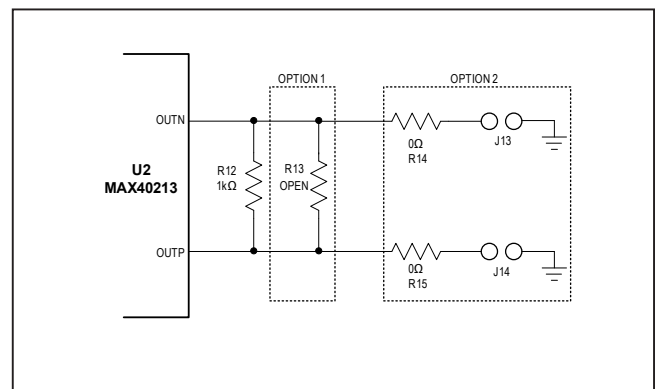

Figure 2. Evaluation Circuit 2—High Impedance Input on Equipment
- 2) Evaluation Circuit 2 (see Figure 2): Before beginning, use resistor R13 pads to install the differential probes.
The MAX40213 outputs are connected to a 1k $\Omega$  load differentially. The default position is option 1 and uses resistor R13 pad for probing purposes. Option 2 allows the user to install 0 $\Omega$  at resistor R14 and R15. Use FET probes to monitor at the 2-pin headers J13 and J14 (see Figure 2).